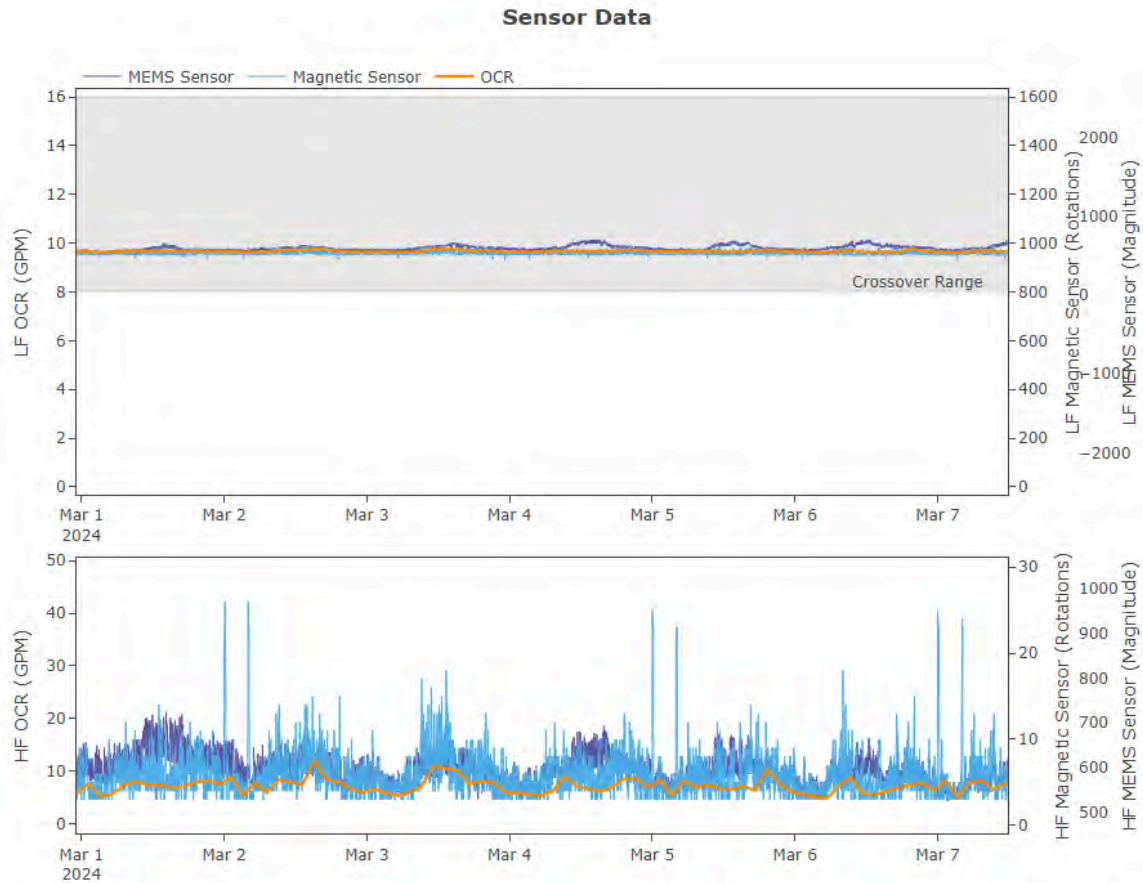

Figure 35 - Post repair No Problem Found meter
- This Badger compound meter (Figure 35), previously had failed low flow and high flow registers. Fullerton City staff have completely replaced the Hershey meter with a Badger meter, and Olea's MHA technology has identified this meter as 'No Problem Found'.